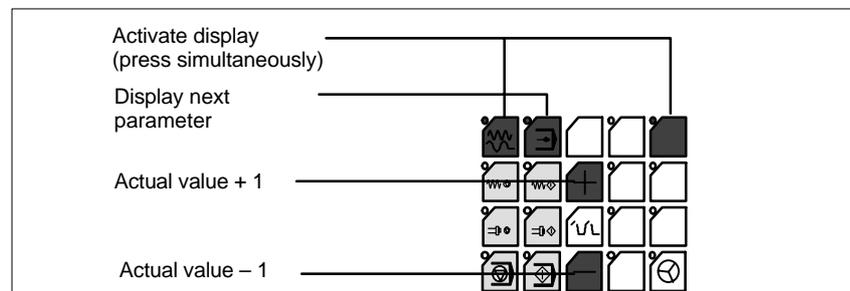

Fig. 7-17 Displaying and modifying GD circle parameters
The current values of the GD circle parameters of the HHU can be set and/or checked on the HHU display (see Fig. 7-17, Page 7-192).
While the message “Waiting for PLC” is displayed on the HHU display, the uppermost right and left keys must be pressed simultaneously (see Fig. 7-17). Then the first GD circle parameter is displayed.
The value of a GD circle parameter can be modified within its admissible range of values using the + or – keys (see Fig. 7-17).
Press the 2nd key from the left in the uppermost key row (see Fig. 7-17) to advance to the next parameter. After the last GD circle parameter has been reached, the set values will be automatically saved in the Flash-EEPROM of the HHU.
5. Setting the HHU GD circle parameters (see: Fig. 7-17, Page 7-192) according to the values of the default configuration.